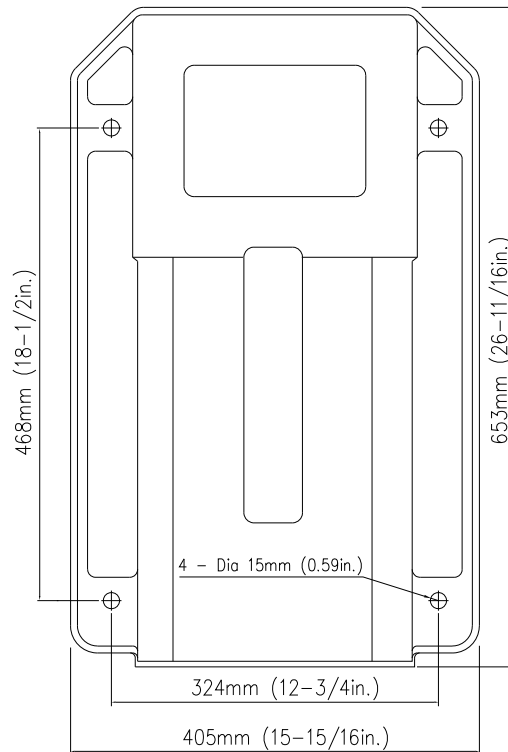

Figure 4-1: mounting holes for JMD-45VS series
2. Before bolting mill-drill to a bench or stand, the unit must be level: Place a level on table in both directions. If table is not level, shim under the low corner(s) until level. Tighten fastening bolts. (See Figure 4-1 for mounting hole spacing.)